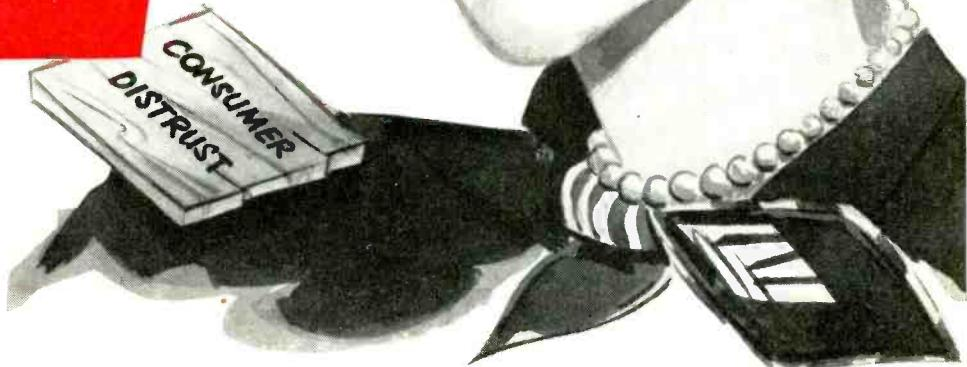
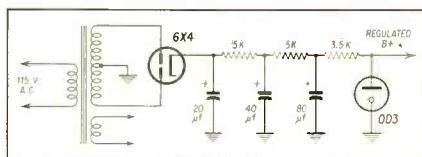

Fig. 1 — View of Kirby Model SA-103 Oscilloscope Pre-Amplifier Unit.
Fig. 2 — Voltage-Regulated power supply used in Kirby Model SA-103.
**Fig. 1 —** A composite if response curve is the product of the individual tuned-circuit responses, as indicated. The numbers indicate the consecutive tuned circuits in the if amplifier; "1" is the mixer-output coil, "2" is the 1st if output coil, etc. (B) Each if tuned circuit comprises an inductance  $L$ , stray circuit capacitance  $C$ , and a damping resistor  $R$ ; the damping resistor is required to lower the circuit  $Q$  and to increase the bandwidth sufficiently that a flat-topped composite curve can be obtained.
Figure 1 shows a complete *if* response curve; this curve is termed a "composite" because it is comprised of the *product* of the individual stage responses. In the example illustrated, four single-stage responses (composed of five tuned-coil responses) combine to develop the flat-topped composite *if* response curve.
Fig. 2 — When a damping resistor opens up across an *if* coil, the stage gain becomes very great, and the bandwidth becomes seriously reduced, as indicated at "2," above. This situation has a semblance to regenerative distortion, but does not vary with the value of over-ride bias, as does regeneration.
A unit of this type which is the Kirby Products Corp. Model SA-103 Oscilloscope Pre-Amplifier is illustrated in Fig. 1. Features of this instrument include voltage regulation in the power supply, and hum balancing and low frequency phase correction controls which are conveniently placed for accessibility. The unit features a voltage gain of from zero to 100, controllable from the front panel. At extremely high gain, such as when the pre-amplifier is used in conjunction with an oscilloscope which has a built-in voltage gain of 1000, providing a total gain of 100,000, mechanical vibrations become a factor and shock mounting of tubes is used to overcome this. With voltage gains of this magnitude involved it was necessary to include voltage regulation in the power supply (see Fig. 2) to prevent the waveform viewed on the oscilloscope from bounc-